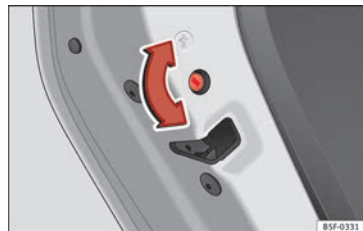

Fig. 127 Childproof lock on the left hand side door.
- With the door open, rotate the groove in the door using the ignition key, clockwise for the left hand side doors » **Fig. 127** and anti-clockwise for the right hand side doors.
- With the door open, rotate the groove in the door using the ignition key, anti-clockwise for the left hand side doors » **Fig. 127** and clockwise for the right hand side doors.